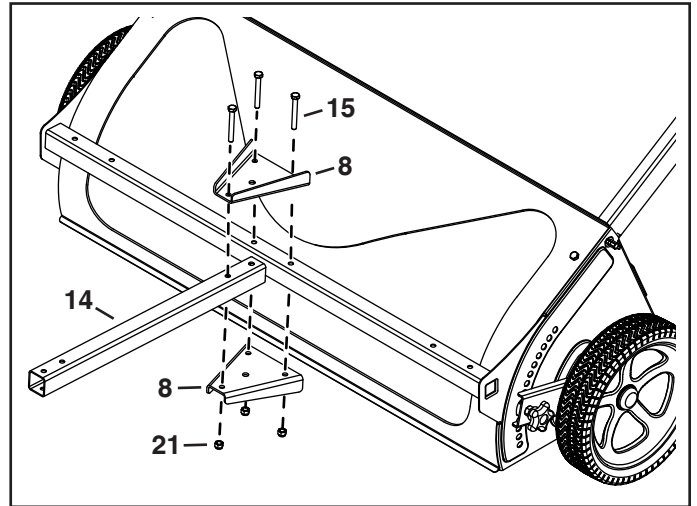

FIGURE 4
- Attach the drawbar (14) to the sweeper by fastening a drawbar bracket (8) above and below the drawbar with three 5/16" x 2-1/2" hex bolts (15) and 5/16" nylock nuts (21). See figure 4.